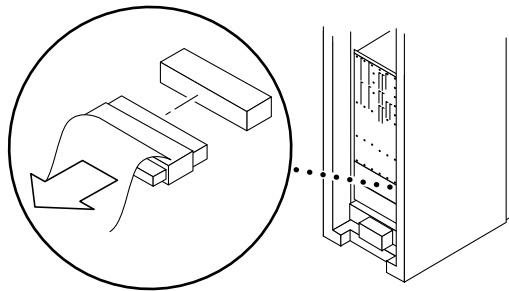

FIGURE 12-15 Disconnecting the Signal Cable—Sun Fire 4810 System
7. Disconnect the cable connecting the system backplane and the power backplane (FIGURE 12-15).
4. Connect the signal cable to the system centerplane and the power backplane (FIGURE 12-15).